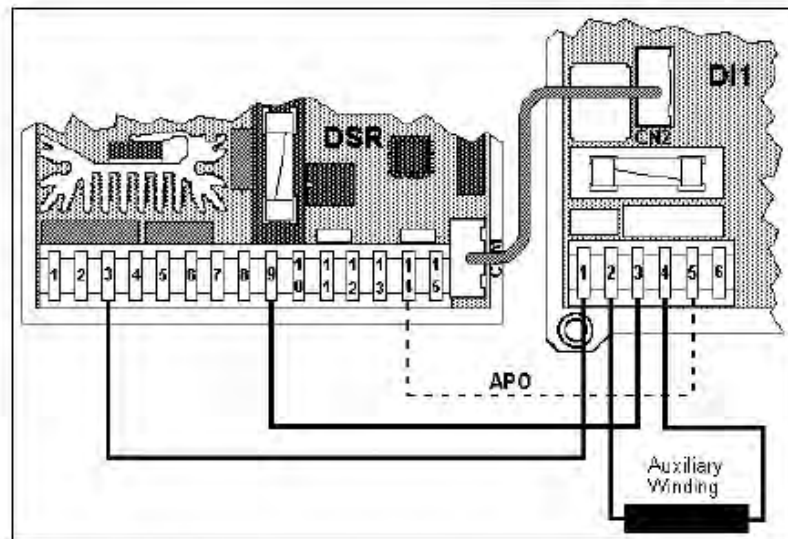

Figure 8 : Example of power and connection (optional) of APO signal
The DI1 interface also permits isolation of the A.P.O. contact of the regulator : terminal 14 of the DSR must be connected to terminal 5 of CN1 (as indicated with the dotted line in fig. 8).
- 1) On connector CN1 (terminals 1-2 and 3-4) through the same power as the DSR; for this purpose, the power terminals on CN1 have been duplicated (Fig. 8)